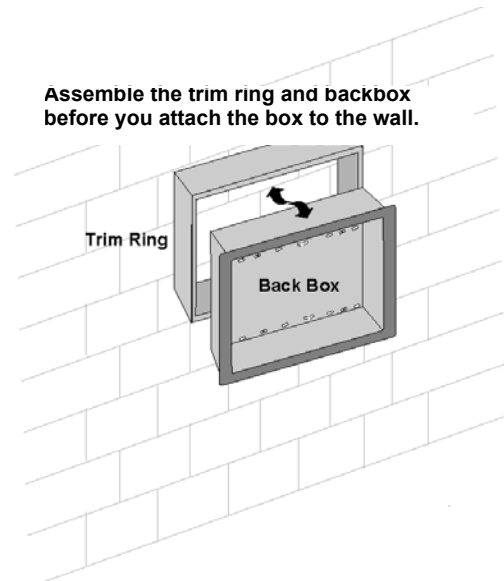

Figure 1 Surface Mounting
2. After you secure the remote annunciator to the wall, position and secure the trim rings in place as shown in Figure 1.